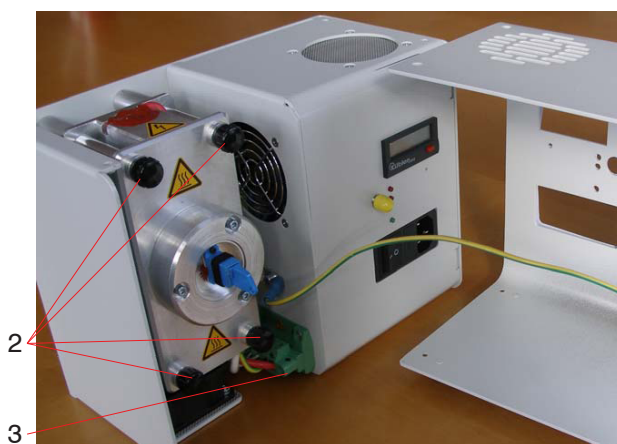

Fig. 74 Open Xenon light source with lamp module
- Carefully disconnect the green connector (3), see Fig. 74.
- Manually disconnect and remove the four knurled screws (2) with caution. Remove the lamp module.